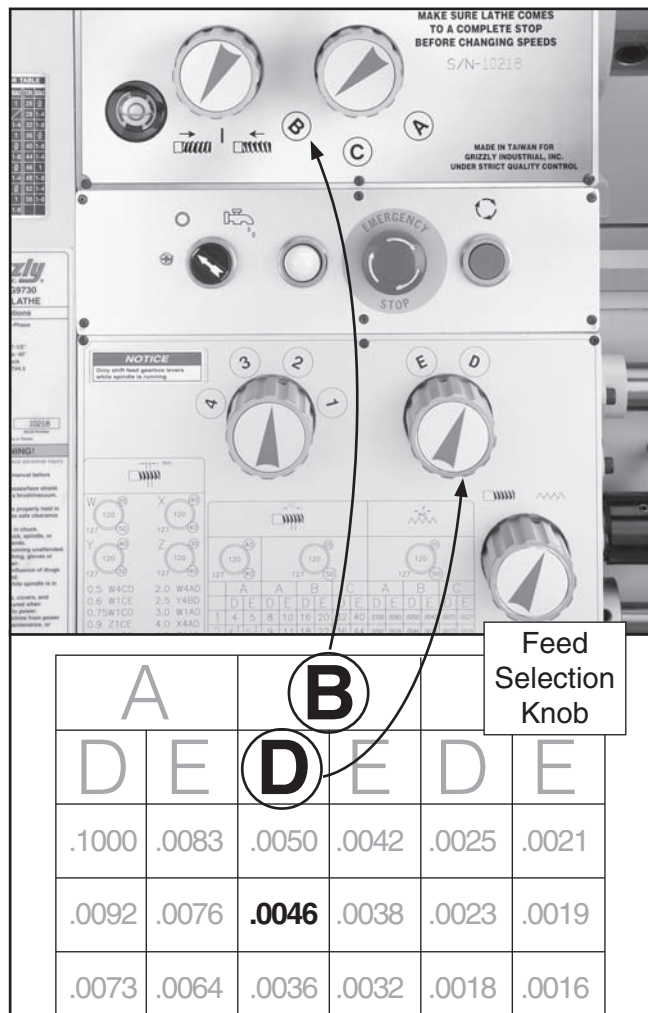

Figure 80. Feed rate chart with a feed rate of 0.0046 in bold.
- Locate the box in the feed rate chart that shows a feed rate of 0.0046 inches of feed per revolution of the spindle (see the bold characters in **Figure 80**).